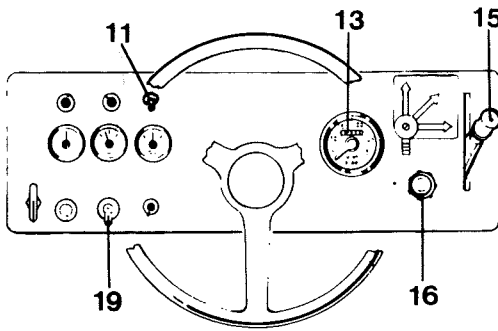

Fig 13
- 1 Check that the vibration control (19, in Fig 13) is in the "0" position.